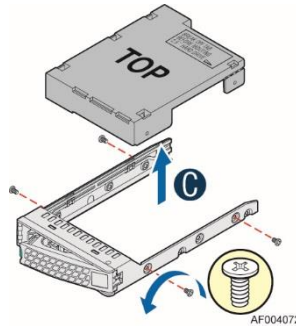

Figure 36. Installing a 3.5" HDD – removing the drive blank
2. Remove the four screws securing the plastic drive blank to the carrier and remove the drive blank from the carrier (C) as pictured in Figure 36.